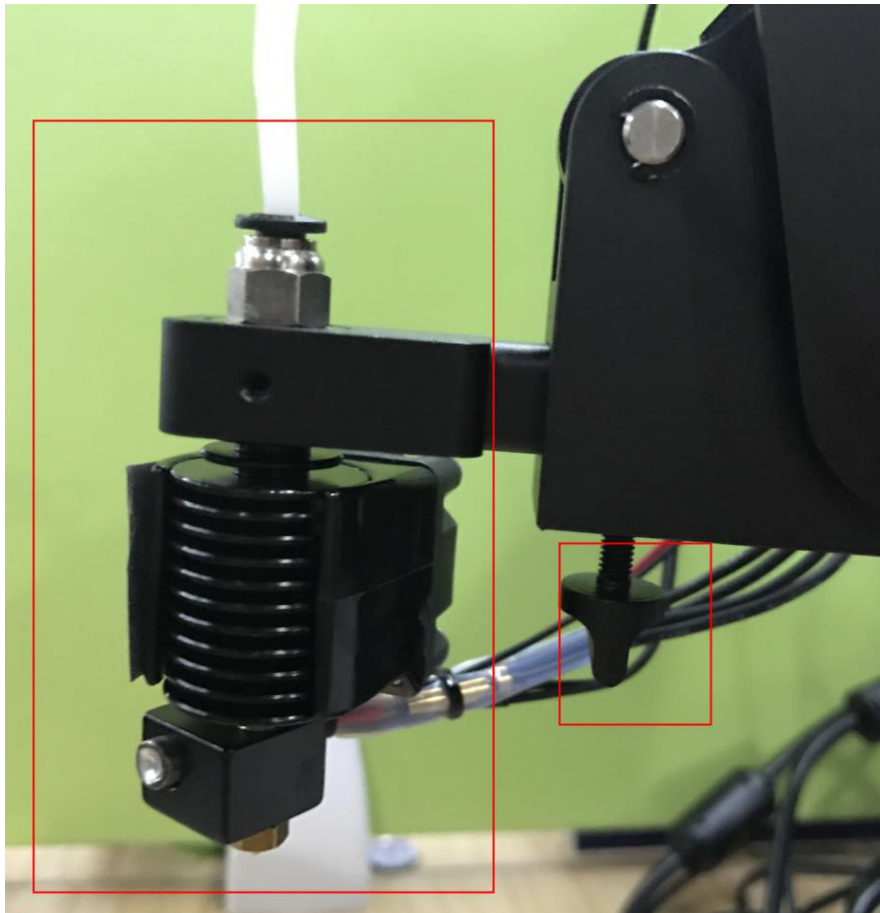

Figure 5.107 Fix hot end
- Step 4** Fix the hot end on the Dobot Magician with clamp fixing screw, as shown in Figure 5.107.